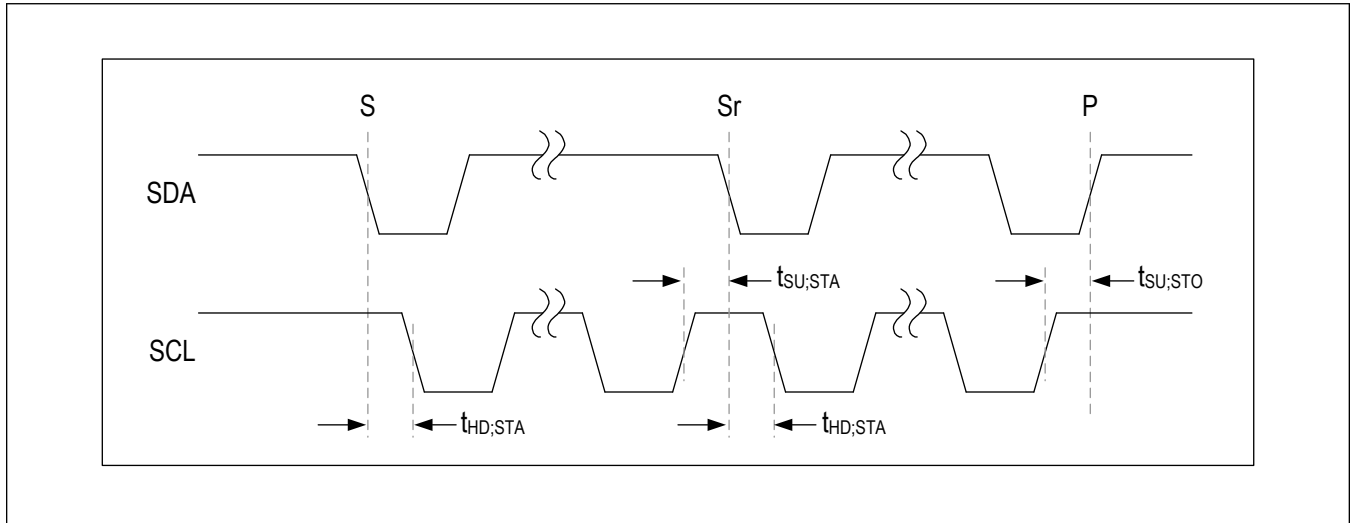

Figure 6. START, STOP, and REPEATED START Conditions
A master device initiates communication by issuing a START condition. A START condition is a high-to-low transition on SDA with SCL high. A STOP condition is a low-to-high transition on SDA while SCL is high (Figure 6). A START (S) condition from the master signals the beginning of a transmission to the MAX20430. The master terminates transmission and frees the bus by issuing a STOP (P) condition. The bus remains active if a REPEATED START (Sr) condition is generated instead of a STOP condition.